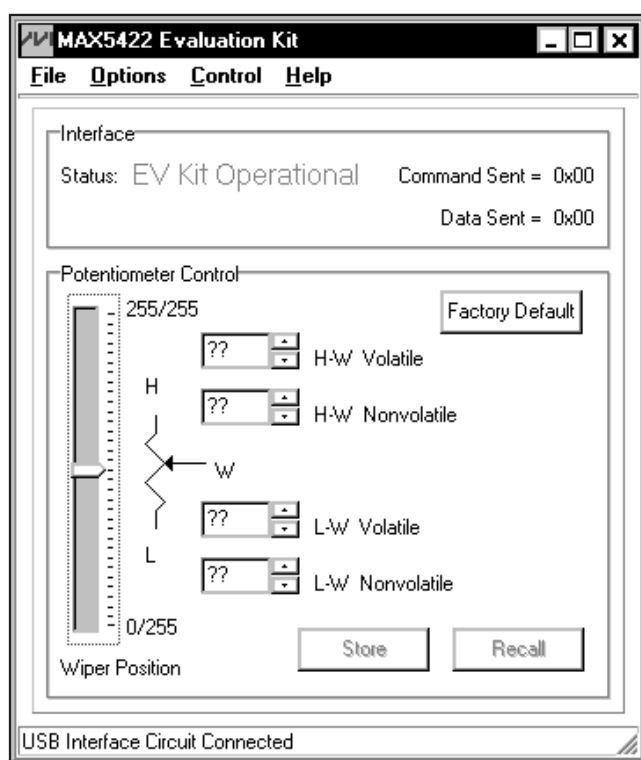
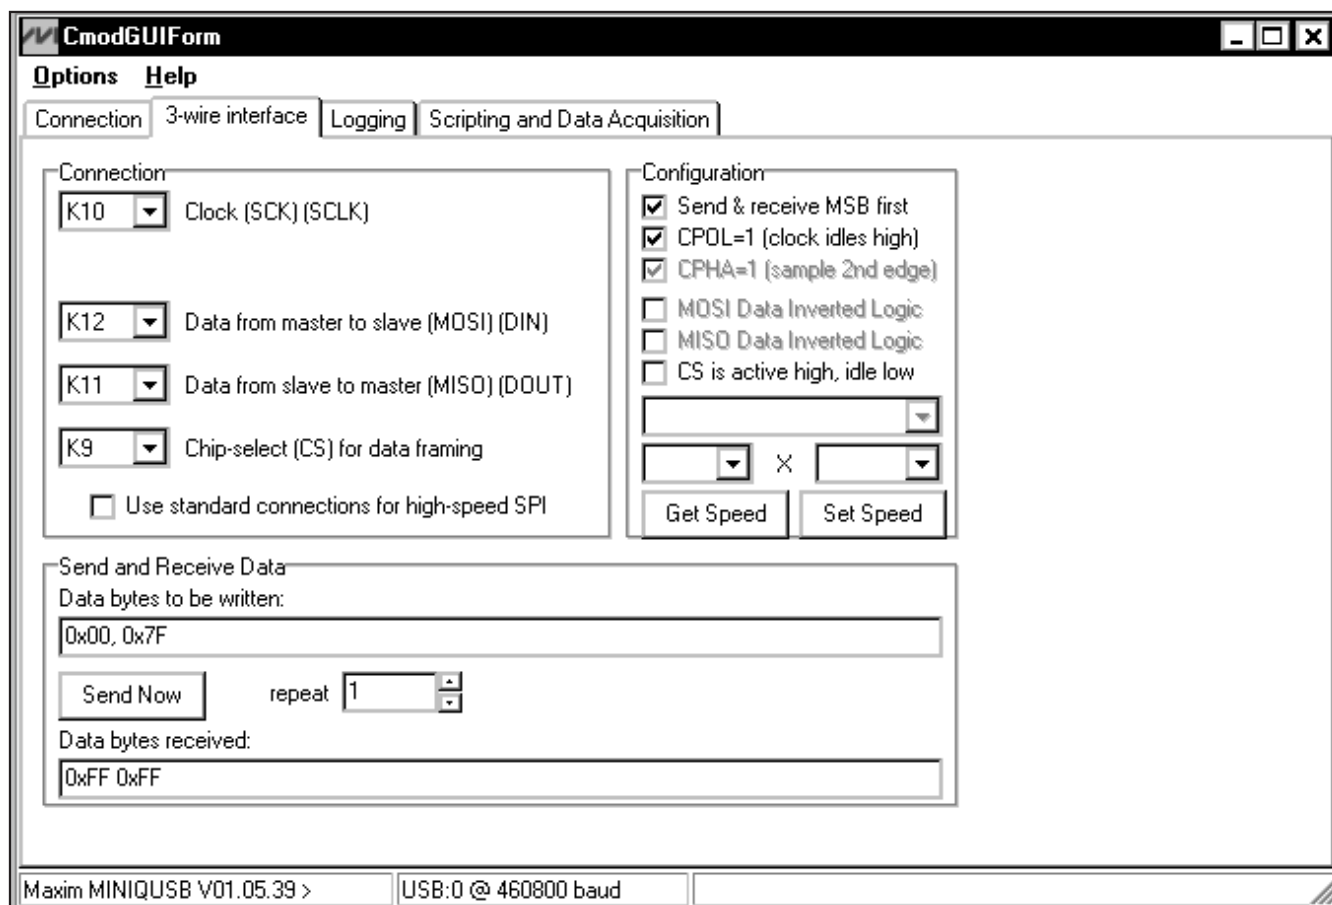

Figure 1. MAX5422 Evaluation Kit Software Main Window
Figure 3. Simple Low-Level 3-Wire Interface
- 8) Observe as the program automatically detects the USB connection and starts the main program. After successful connection, the EV kit software main window appears in the upper-left corner of the window (Figure 1).
The MAX5422 EV kit software GUI shown in Figure 1 is a Windows program that provides a convenient means to control the MAX5422. Use the mouse or press the tab key to navigate through the GUI controls. The correct SPI write operation is generated to update the MAX5422 internal memory registers when any of these controls are executed.
There are two methods for communicating with the MAX5422 EV kit, through the normal user-interface panel (Figure 1) or through the SPI commands available by selecting the **3-Wire Interface** (Figure 3) utility from the main program's **Options | Interface (Advanced Users)** main menu. A window is displayed that allows SPI send/receive data operations.
The **Connection** group box allows the user to define the hardware connections of the interface. For the MAX5422 EV kit, select **K10** from the **Clock (SCK) (SCLK)** drop-down list, **K12** from the **Data from master to slave (MOSI) (DIN)** drop-down list, **K11** from the **Data from slave to master (MISO) (DOUT)** drop-down list, **K9** from the **Chip-select (CS) for data framing** drop-down list, and uncheck the **Use standard connections for high-speed SPI** checkbox (see Figure 3).
The **Configuration** group box allows the user to configure the logic level and data rate. For the MAX5422 EV kit, check the **Send & Receive MSB first** and the **CPOL=1 (clock idle high)** checkboxes (see Figure 3).
Note: The SPI dialog boxes accept numeric data in hexadecimal format. Hexadecimal numbers must be prefixed by \$ or 0x. See Figure 3 for an example of this tool. Figure 3 shows a simple SPI write-byte operation using the included 3-wire interface diagnostics tool. In this example, the software is sending a command 0x00 (write to volatile memory), and a data 0x7F. The data sequence sets the MAX5422 wiper position to 128.